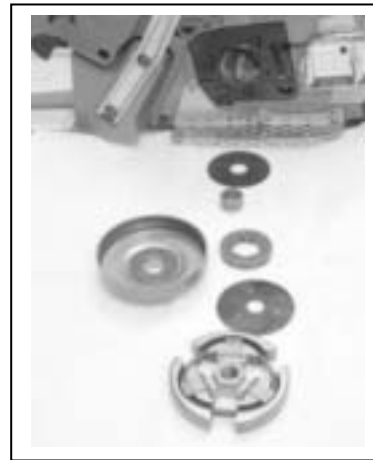

Figure 2
- Place the thin metal washer onto drive shaft. Slide the needle bearing and clutch cup w/rim sprocket onto shaft (Figure 2).